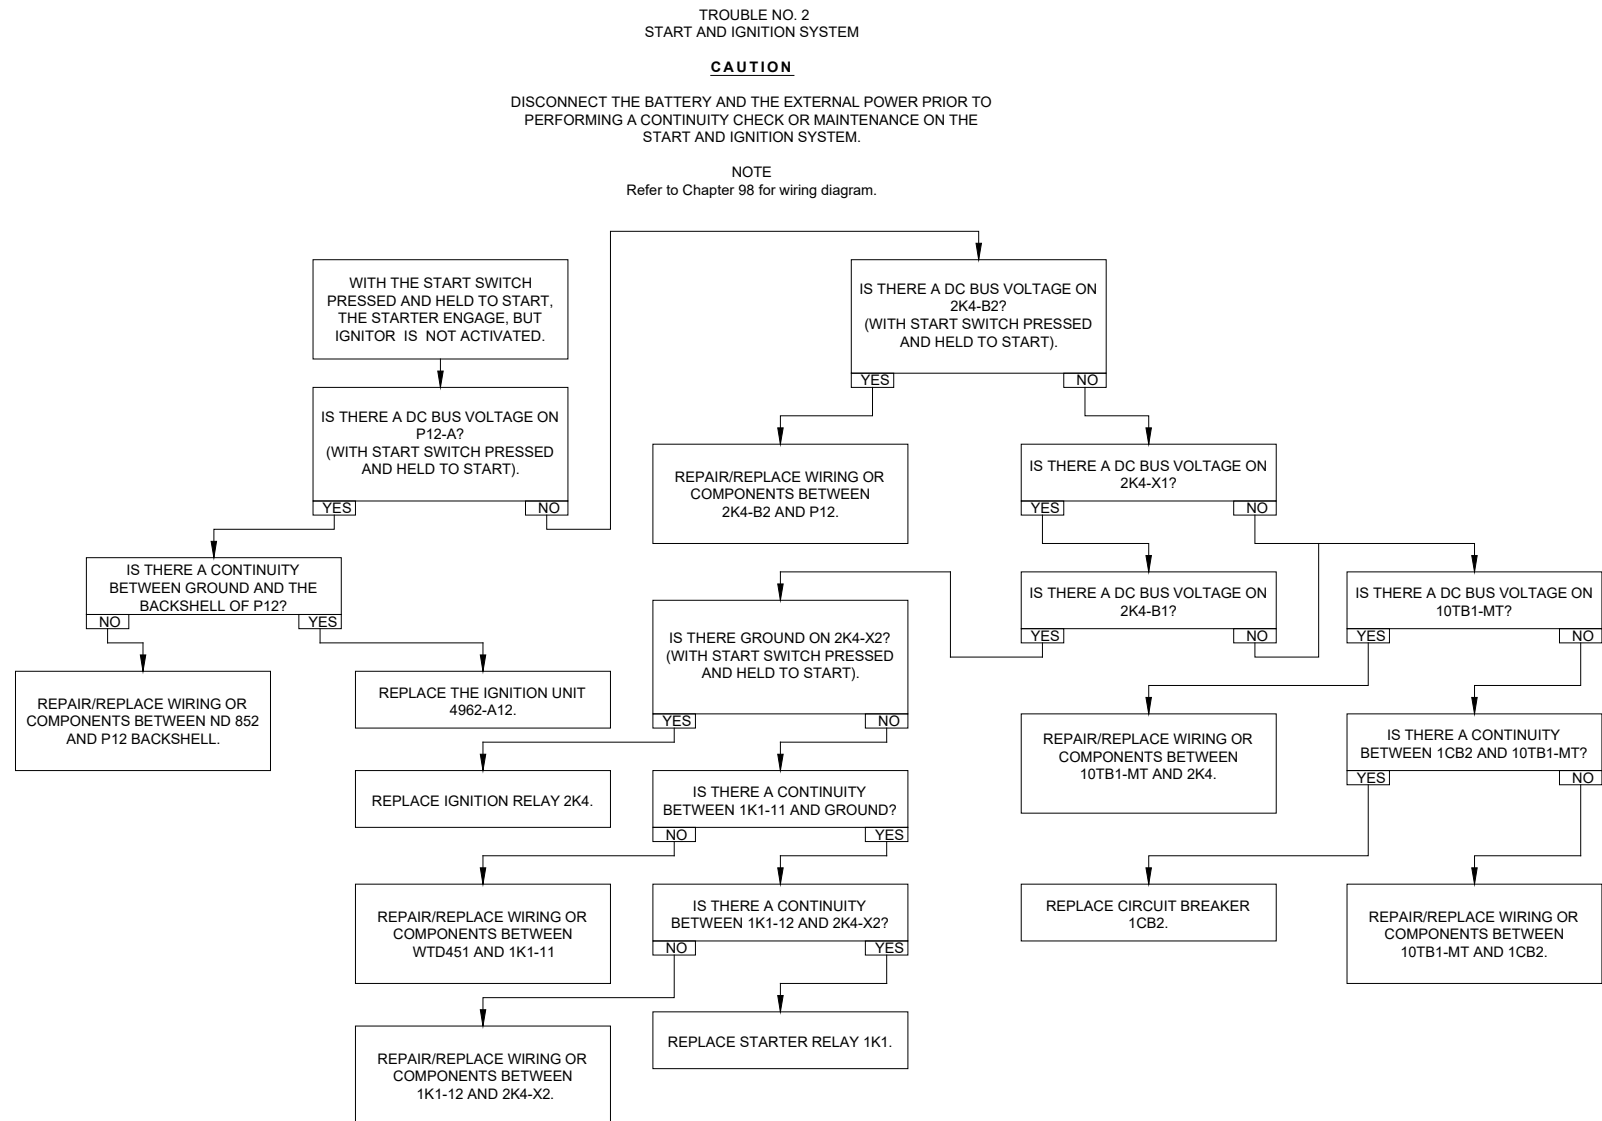

Figure 96-27: Start and Ignition System - Trouble No. 2
- If the ignitor is not activated, but the START comes on with the starter engaged, refer to Trouble No. 2 (Figure 96-27).
- If engine ignition is not firing, refer to Start and Ignition System Trouble No. 2 (Figure 96-27).